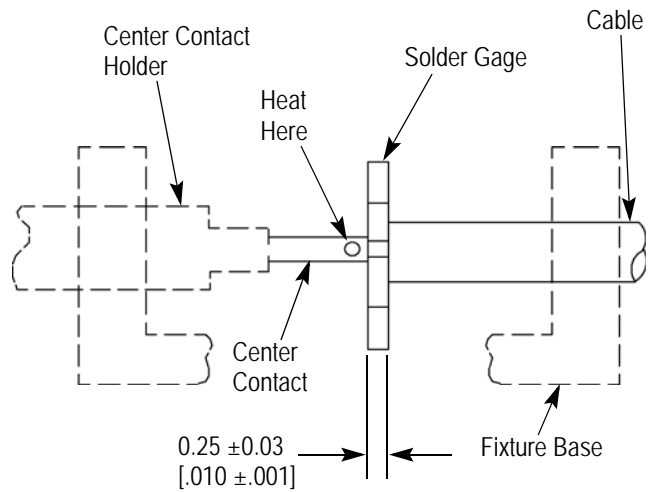

Figure 4
3.2. Soldering of Center Contact to Inner Conductor (Figure 4)